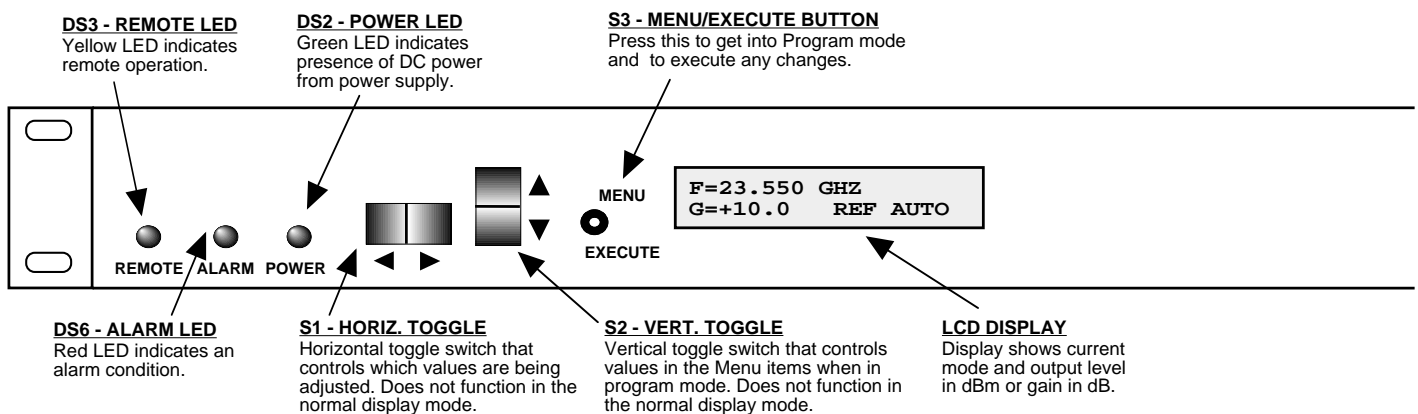

FIGURE 2.2 3115-236#-1200 Front Panel Controls and Indicators
Figure 2.2 shows the front panel controls and indicators.
5. Be sure DS2 (green, DC Power) is on and DS6 (red, Alarm) is off (Figure 2.2).
Alarm indications appear on the LEDs (see Figure 2.2).